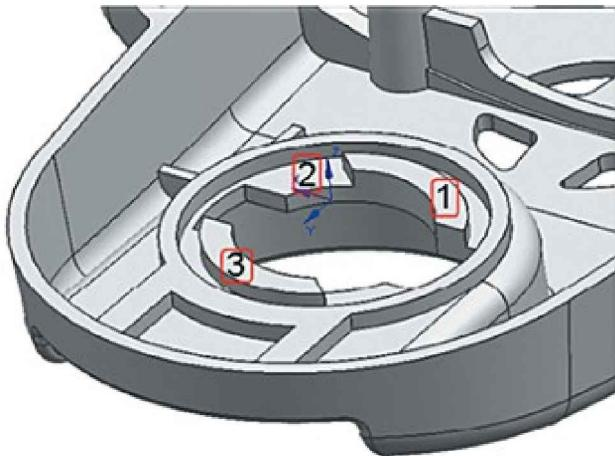

Figure 2.44. Offset Region command
6. Click **Make Coplanar** on the **Synchronous Modeling** toolbar. In the **Make Coplanar** dialog box (Figure 2.44), do the following: